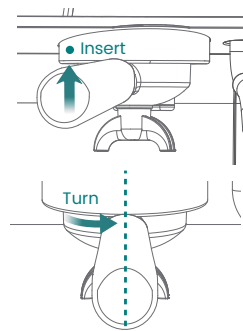

Fig 6
1. Place the portafilter under the Group Head with the handle aligned with the INSERT sign. Raise the portafilter straight to fit into the group head and rotate the handle to the right until resistance is felt. The handle should be perpendicular to the control panel when the portafilter is in position. Extra force may be needed to turn portafilter in the group head for the first few uses. (See Fig 6)